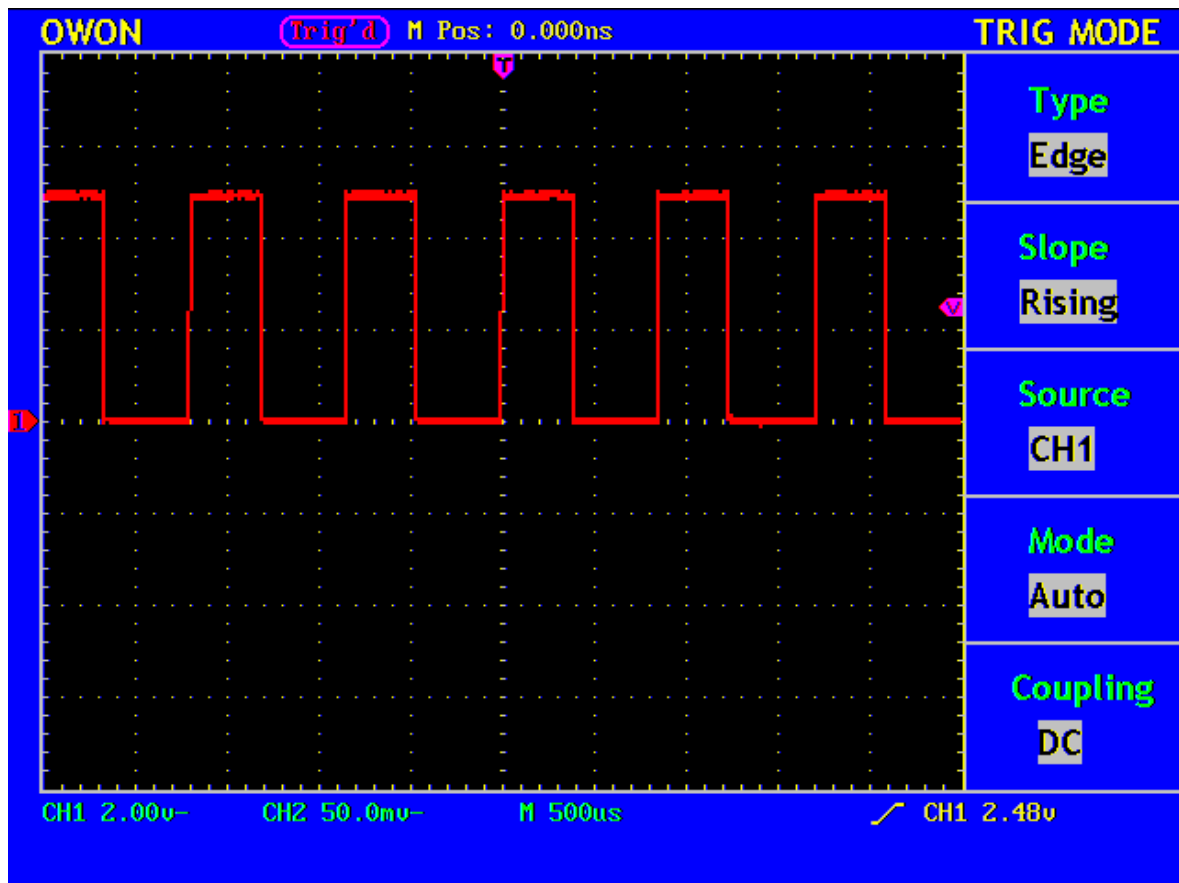

**Fig. 5** Connection of the Probe
Connect the probe tip and the ground clamp to the connector of the probe compensator, shown as Fig. 5.
1. Set the attenuation coefficient of the probe in the menu as 10X and that of the switch in the probe as 10X, and connect the oscilloscope probe with the CH1 channel. If a probe hook tip is used, ensure that it keeps in close touch with the probe. Connect the probe tip with the signal connector of the probe compensator and connect the reference wire clamp with the ground wire connector of the probe connector, and then press the button AUTOSSET (see Fig. 5).